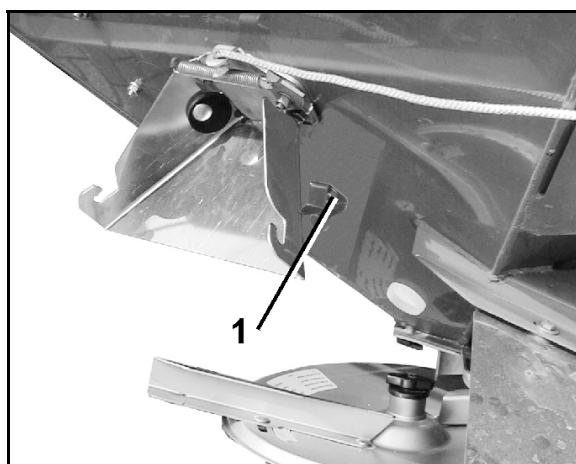
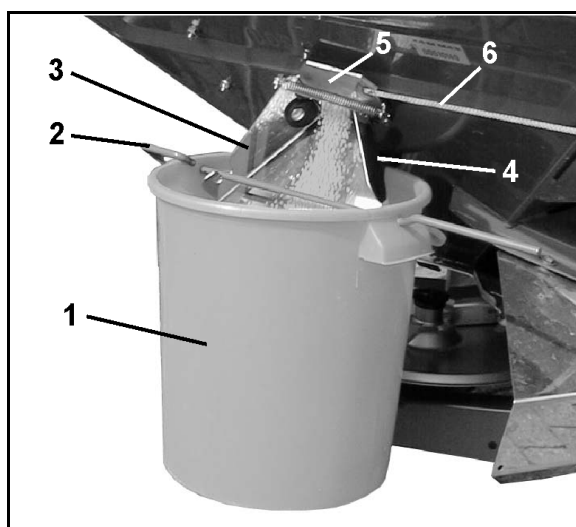

Fig. 51
Fig. 52
1. Hook the collection bucket (Fig. 52/1) using the bracket (Fig. 52/2) on the outlet chute (Fig. 52/3). Engage the collection bucket in the clamping device (Fig. 52/4 and Fig. 51/1).
2. Completely open the lateral shutter (Fig. 52/5) of the outlet chute for approx. 5 sec. using the rope (Fig. 52/6) (to ensure uniform fertiliser flow). Then pour the collected fertiliser quantity back into the spreader.